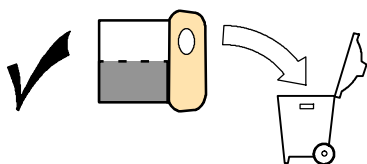

FIG. 28
2. Check the dust collection bag for fullness. Replace bag when half full (Figure 28).